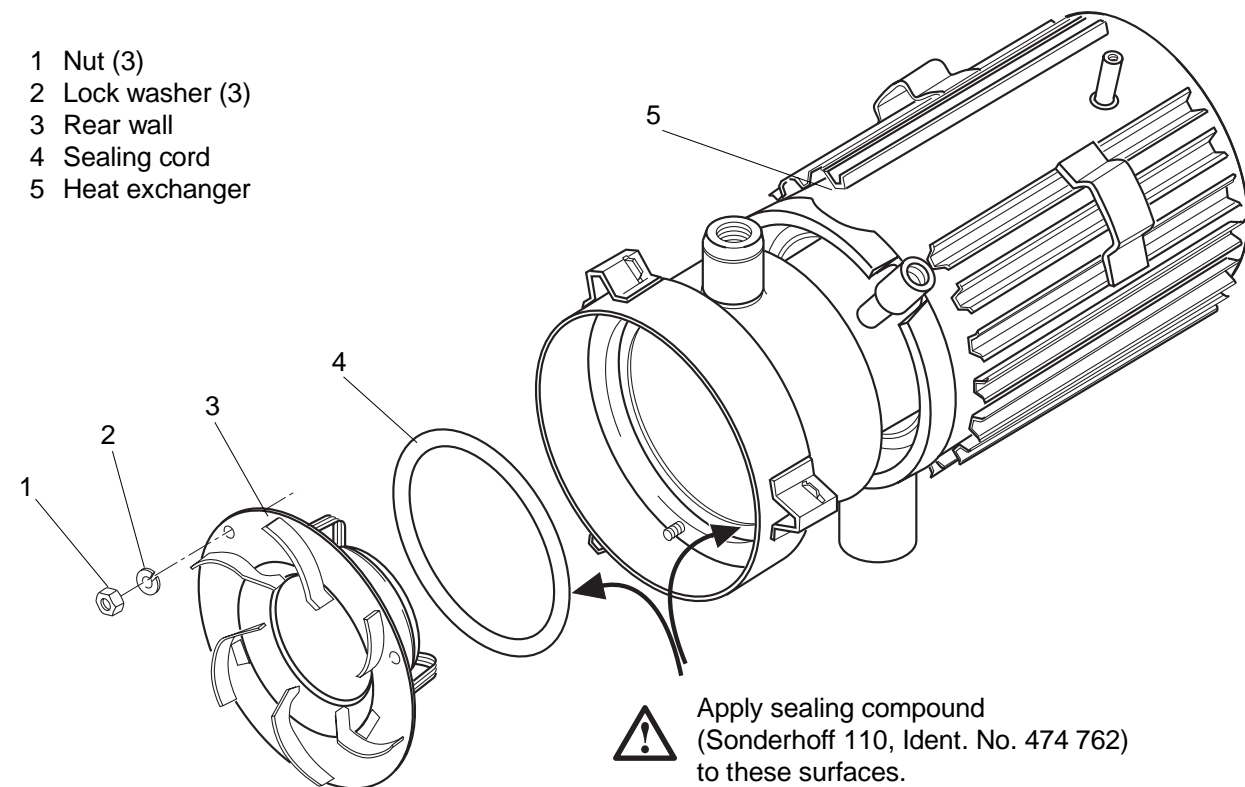

Fig. 903 Replacement of Heat Exchanger
7. Pull off end cap (6).
9. Remove nuts (1, Fig. 903) and lock washers (2).
10. Pull rear wall (3) out of heat exchanger and remove sealing cord (4).
1. Apply sealing compound (Sonderhoff 110, Ident. No. 474 762) to mating surfaces of sealing cord (4, Fig. 903) and heat exchanger (5) and locate with rear wall (3) in heat exchanger (5) for assembly.
2. Secure rear wall (3) with nuts (1) and lock washers (2).
3. Torque nuts (1) to 1.5 ± 0.2 Nm.